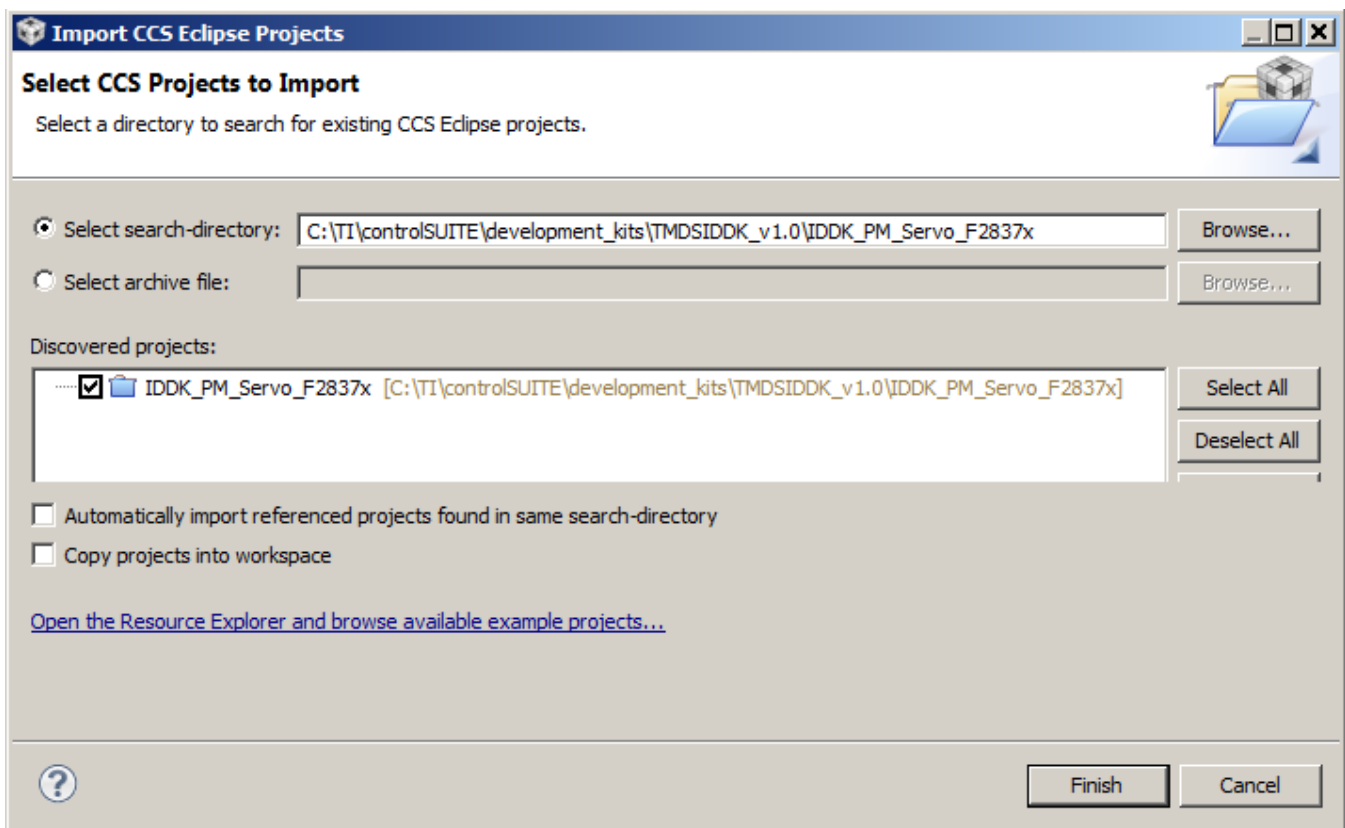

Figure 4-3. Adding an IDDK Project to Workspace
30. To select the IDDK project, navigate to: `C:\TI\controlSUITE\development_kits\TMDSIDDK_v1.0\IDDK_PM_Servo_F2837x`. (See Figure 4-3.)
- (a) Click the projects to import. (Figure 4-3 shows one project in the directory.)